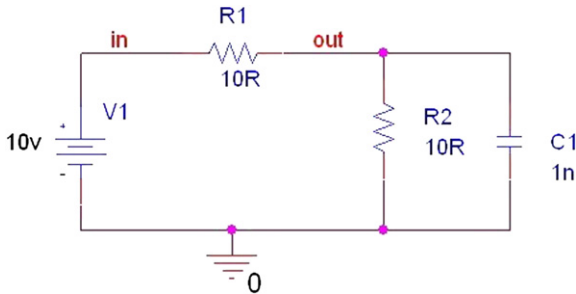

FIGURE 2.17
1. The circuit in Figure 2.17 is based upon the resistor circuit in Chapter 1. Add a 1nF capacitor, from the **analog** library, in parallel with R2.